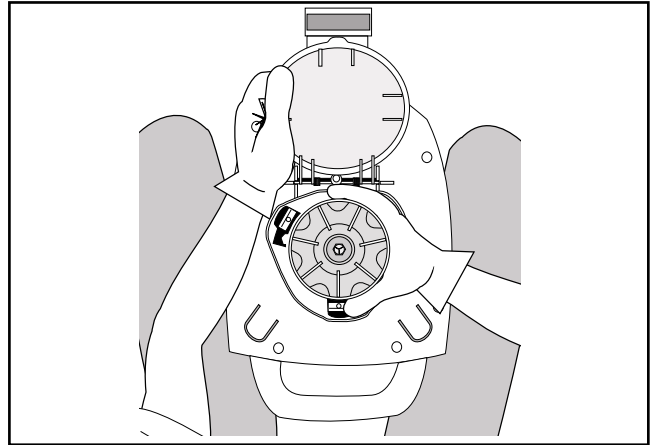

Fig. 7
3. Align the adapter's three (3) slots with the unit's three (3) hooks. Push firmly so all three (3) hooks snap through (Fig. 7).